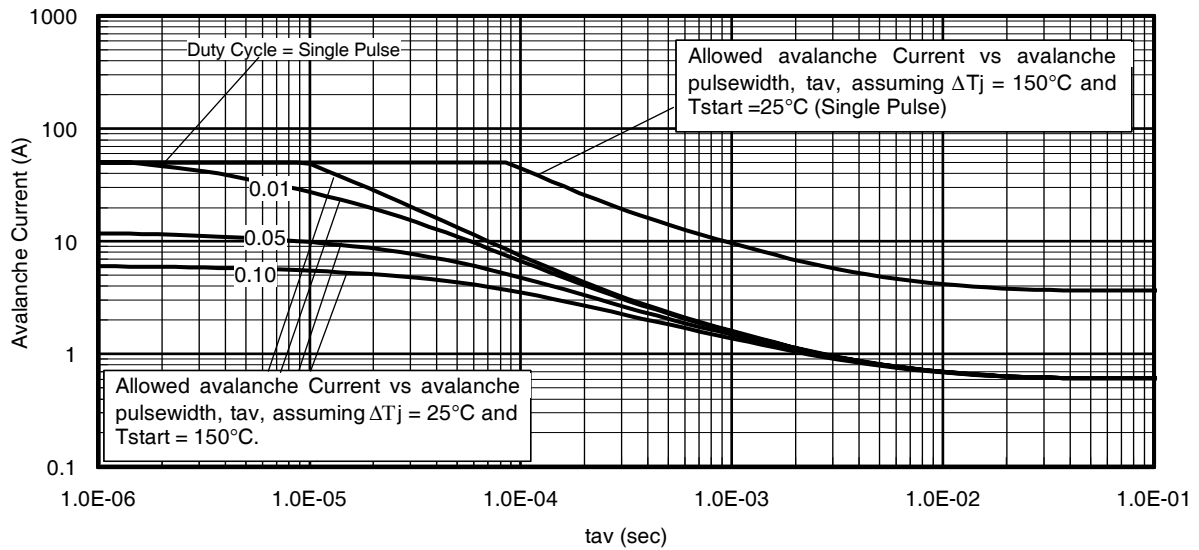

Fig 14. Typical Avalanche Current vs. Pulsewidth
Notes on Repetitive Avalanche Curves, Figures 14, 15:
7. ΔT = Allowable rise in junction temperature, not to exceed $T_{j\text{max}}$ (assumed as 25°C in Figure 14, 15).